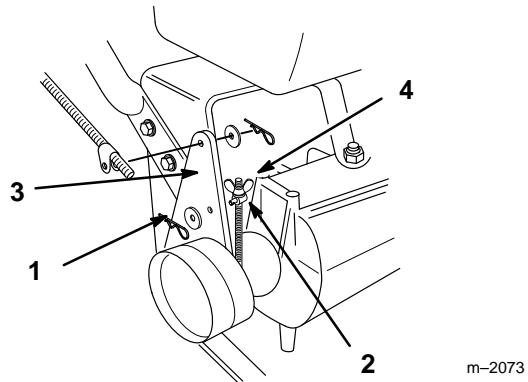

Figure 28
3. To adjust the brake remove the cotter pin and washer from the brake lever (Fig. 28).
4. Rotate the trunnion so it smoothly slides into brake lever (Fig. 28). Tighten wing nut.
5. Secure trunnion to brake lever with washer and cotter pin (Fig. 28).